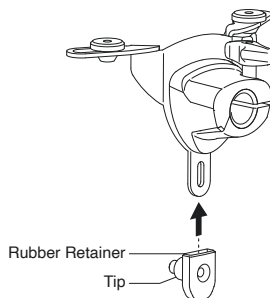

Fig.4
4. If the Rubber Retainer is detached from the Opti-Loc-body, insert the Rubber Retainer onto the lower part of the Opti-Loc body as shown in (Fig.4).